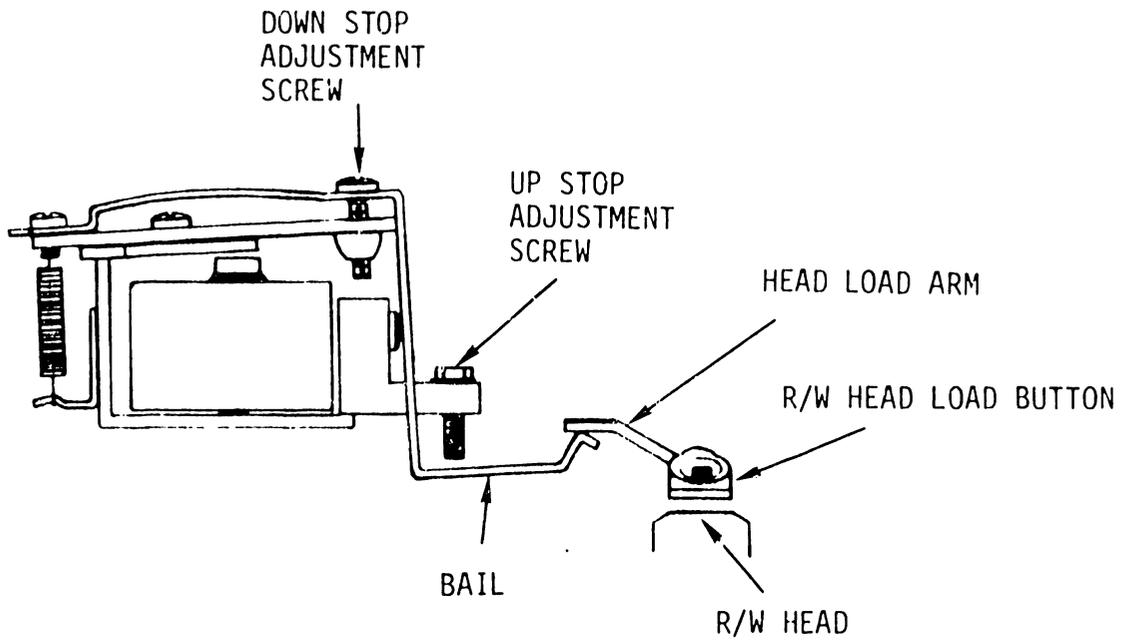
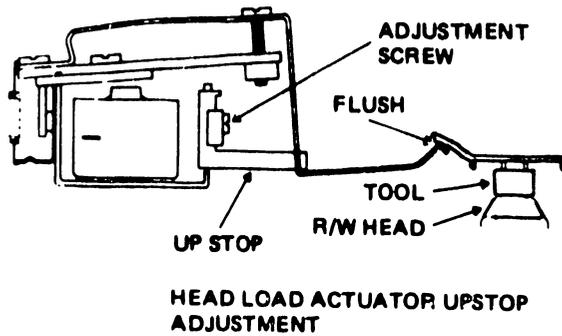

Figure 3 Head Load Actuator Up Stop Adjustment
Figure 4 Head Load Actuator Down Stop Adjustment
- c. Adjust up stop on actuator so that bail just touches head load arm (Refer to Figure 3 and Figure 4).
- f. Adjust down stop on actuator so there is  $.020'' \pm .010''$  clearance between head load bail and head load arm (Refer to Figure 3 and Figure 4).